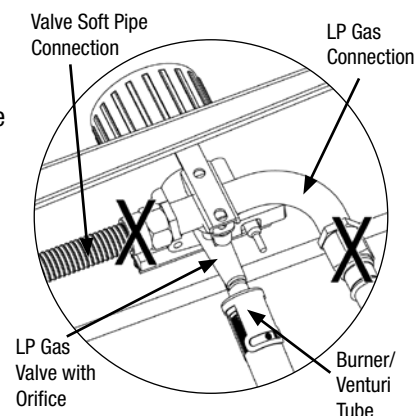

Figure 3
- Make sure control knobs are in the "OFF" position (Figure 3).
- All control knobs must be in the "OFF" position (Figure 3).
3. Control knob must be in the "🔥 OFF" position (Figure 3).